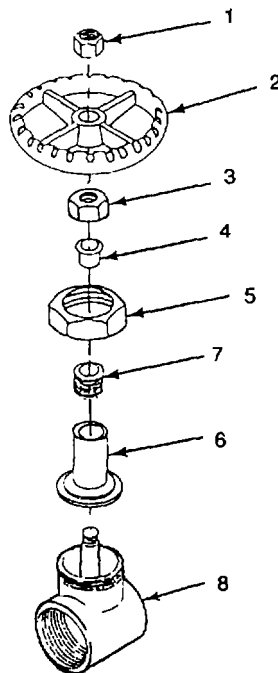

Figure 4-4. 2-Inch Gate Valve
a. **DISASSEMBLE (Figure 4-4).**